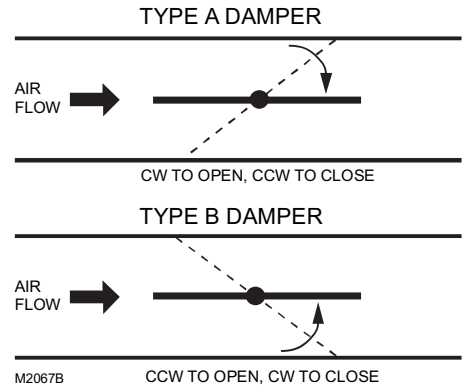

Fig. 4. Determining direction damper shaft rotates when opening.
2. Direction the shaft rotates to open the device (cw or ccw). See Fig. 4.